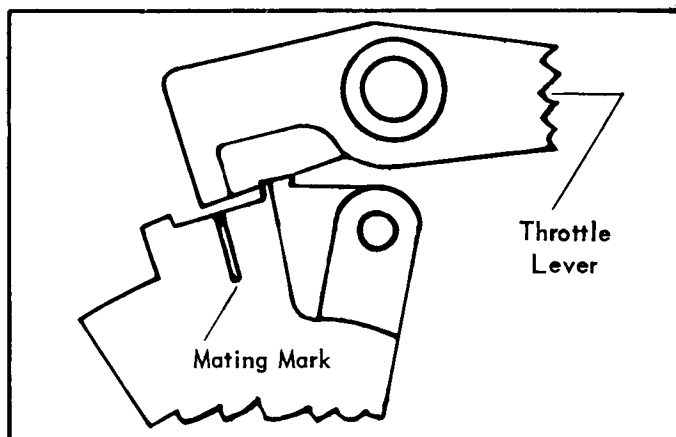
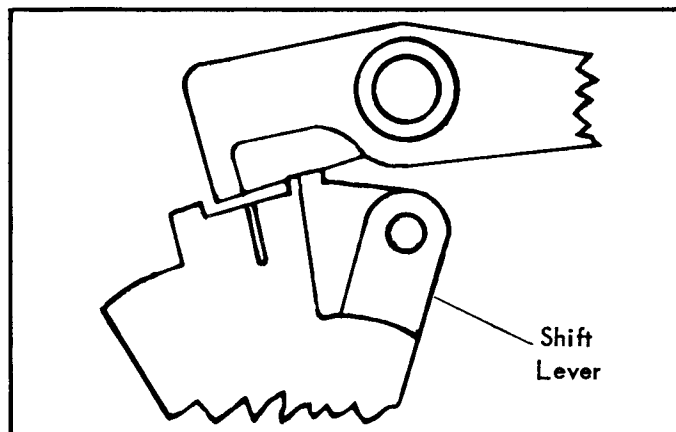

Figure 11. Lever Positions
Figure 12. Lever Positions
1. Place control lever in neutral position and be sure that neutral throttle lever is down all the way before attaching throttle cable to engine. (Figure 11)
4. Shift back into neutral and check to see that throttle lever and shift lever are in position as shown in Figure 11. Disengage cable end and re-adjust brass barrel of throttle cable, if necessary, to be sure that mating mark on shift lever is to the right of indicating portion of throttle control lever, as shown in Figure 12. This will assure that engine is in neutral when control handle of remote control is in its detent position (neutral).